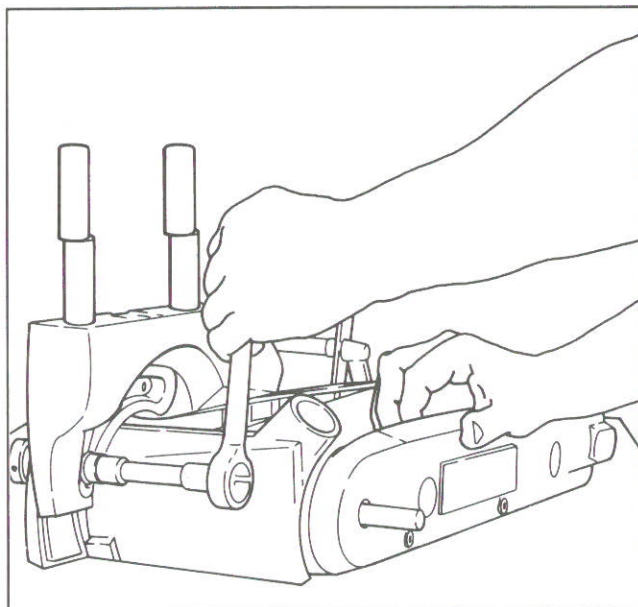

Figure 1.
b. Use a 9/16" socket with short extension and ratchet handle to remove the locking nut on the back of the trunnion lock. (See Figure 1.) Remove the trunnion lock and note the order of the removed hardware.